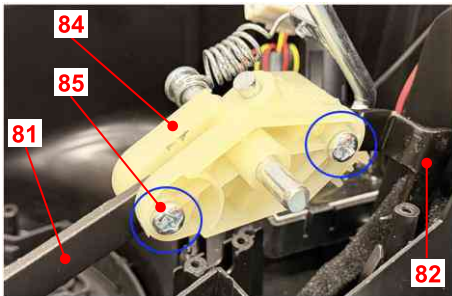

Fig. 28
2. Remove the bolts (85) with a Philips #3 screwdriver to disconnect the linkage assembly (84) from the front axle tie rod (81) and rear axle tie rod (82) (Fig. 28).